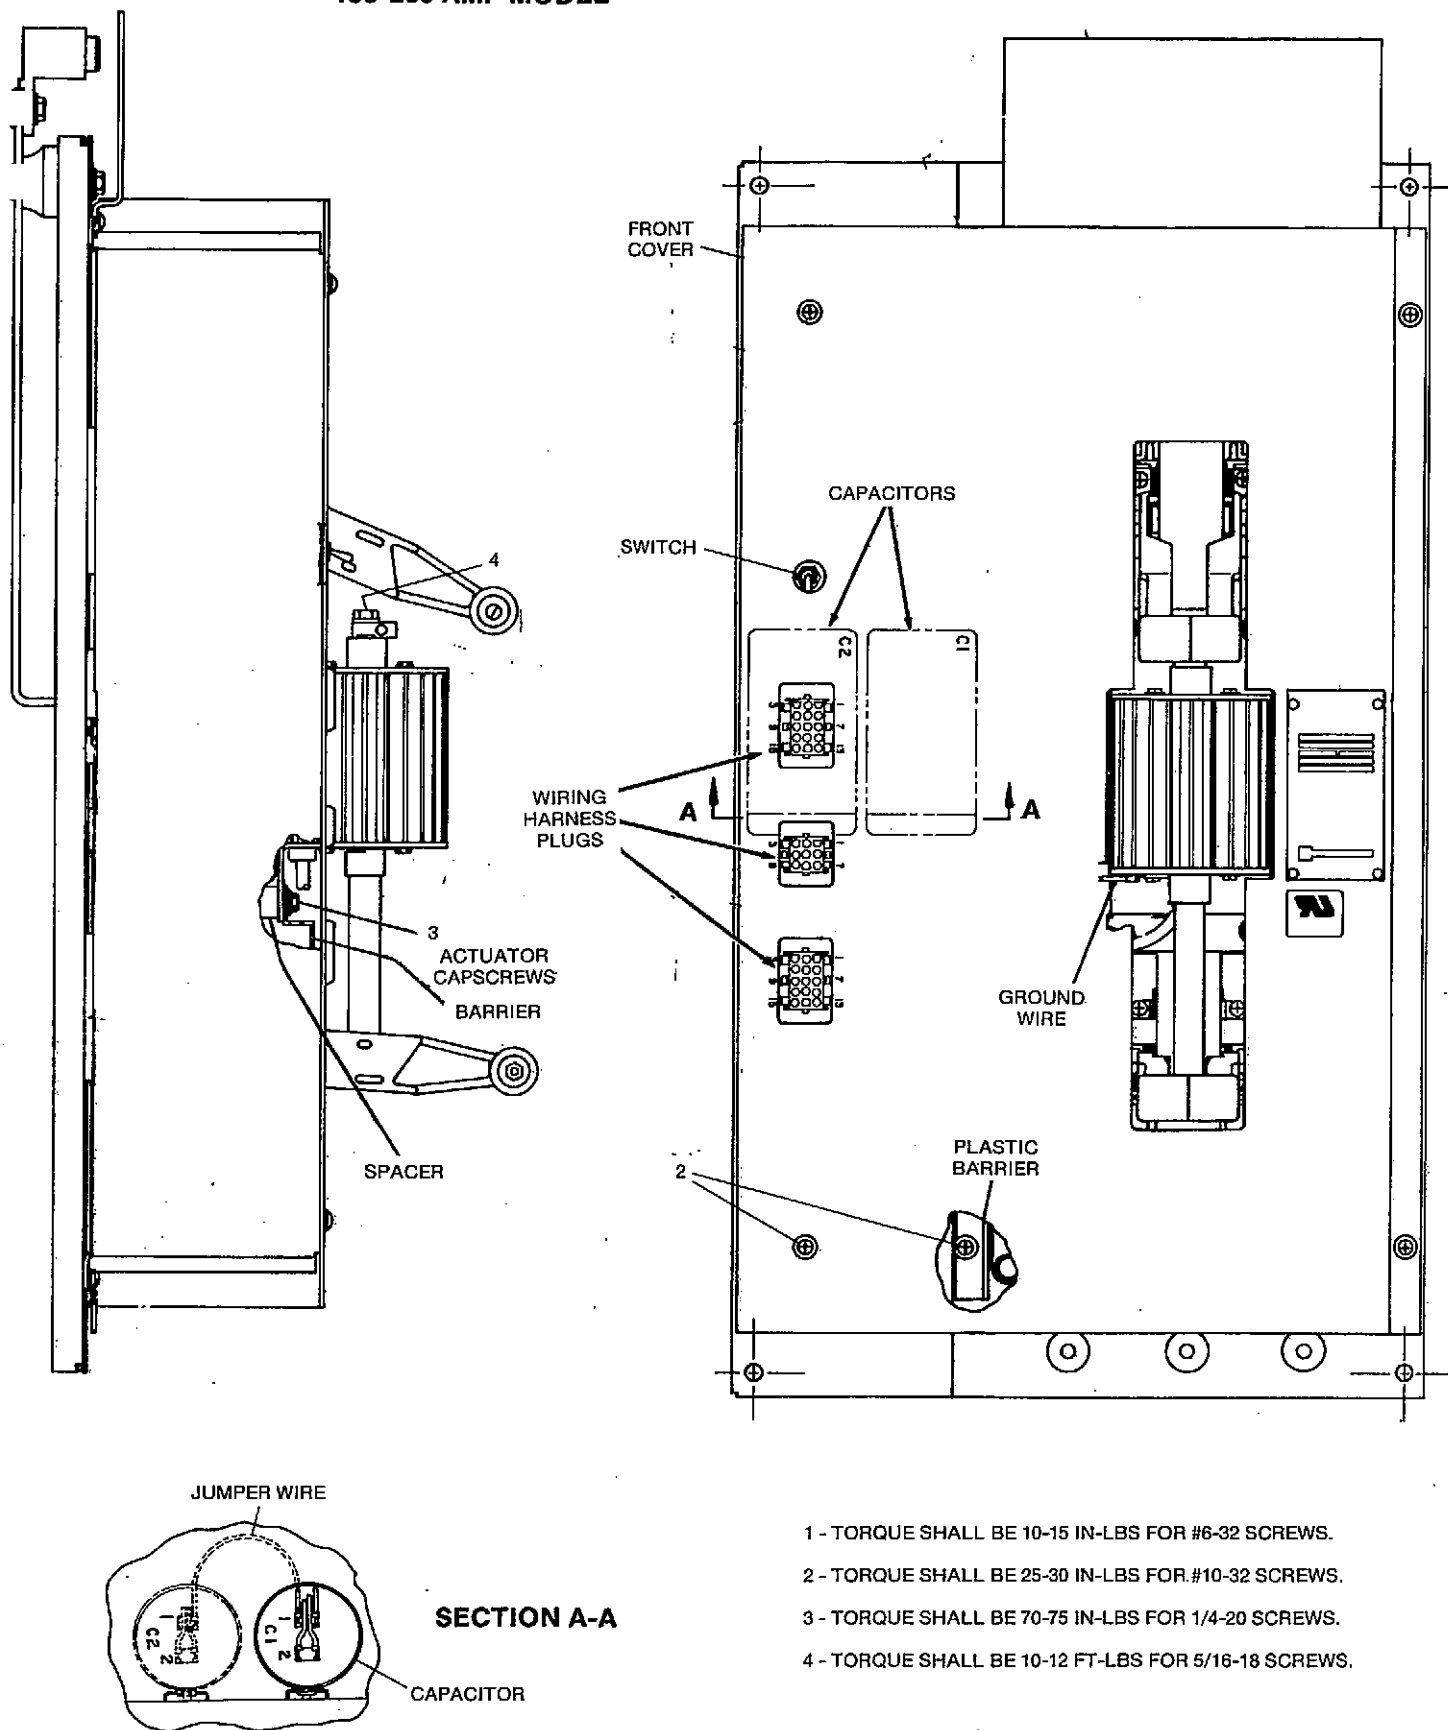

FIGURE 19. TRANSFER SWITCH FRONT COVER
1. Open the transfer switch cabinet door and unplug the three control wiring harness plugs (J1, J2, & J3) - Refer to Figure 19) from the front cover.
3. Remove the screws and flat washers that secure the red plastic barrier to the switch base (see Figure 19); and lift out the barrier.
7. Remove the hex head capscrews, flat washers, and lock washers that secure the actuator to the switch assemblies (see Figure 19); and lift out the spacers (4) and barriers (2).
1. Open the transfer switch cabinet door and unplug the three control wiring harness plugs (J1, J2, & J3 - Refer to Figure 19) from the front cover.